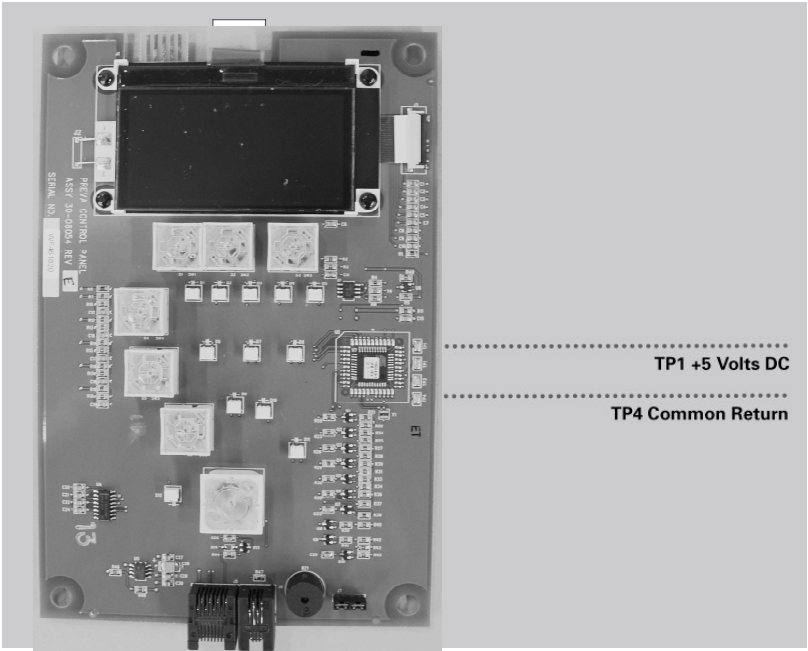

Figure 56
7. If the power supply voltages are present, and the ribbon cable and communication cable are found acceptable, open the Operator Panel case and measure for the presence of +5 volts DC across TP1 and TP4 of the Operator Panel Board, as shown in Figure 56. Absence of this voltage indicates the need to reconfirm the power supply voltages and communication cable. Presence of the voltage requires the replacement of the Operator Panel Board.